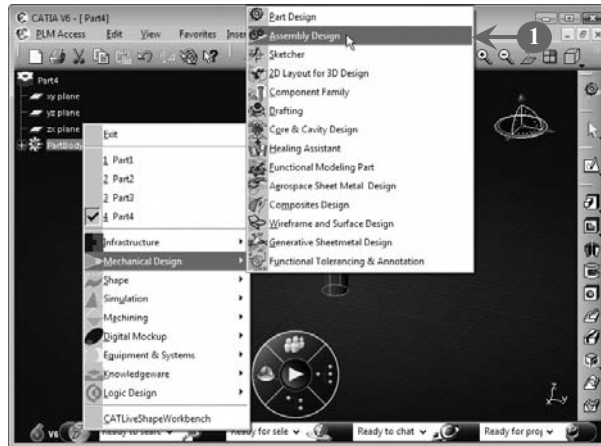

FIGURE 4.11
1. **Select Start>Mechanical Design>Assembly Design** on the CATIA V6 user interface to start the Assembly Design workbench, as shown in **Figure 4.11**: